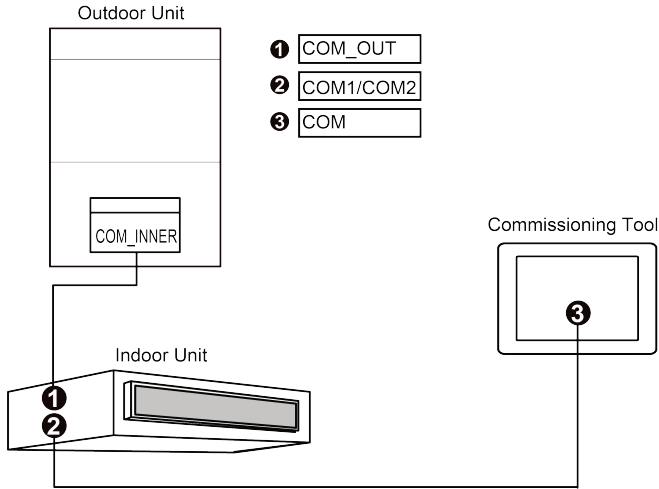

Fig.2.7 Connected with RS485 AC Unit Network
- (1) This product is applicable to the RS485 AC unit and can be connected to the unit network through the IDU;
- (2) If the product is connected to the network through the IDU, connect according to Fig.2.7. During connection, one end of the 4-core long connection wire is connected with COM interface of this product, and the other end is connected to the COM1 or COM2 interface of the IDU.